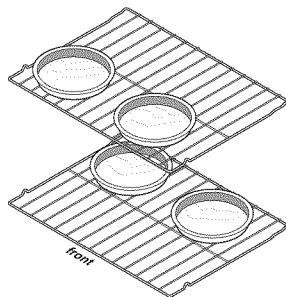

Figure 9: Pan spacing
- When baking using two oven racks, position cookware as shown in Figure 9. Allow at least 2 inches (5 cm) of space between cookware for proper air circulation.
- For batter and dough-based baked goods such as cakes, pastries, and breads, use the convection bake function for best results. Place the pans as shown in Figure 9